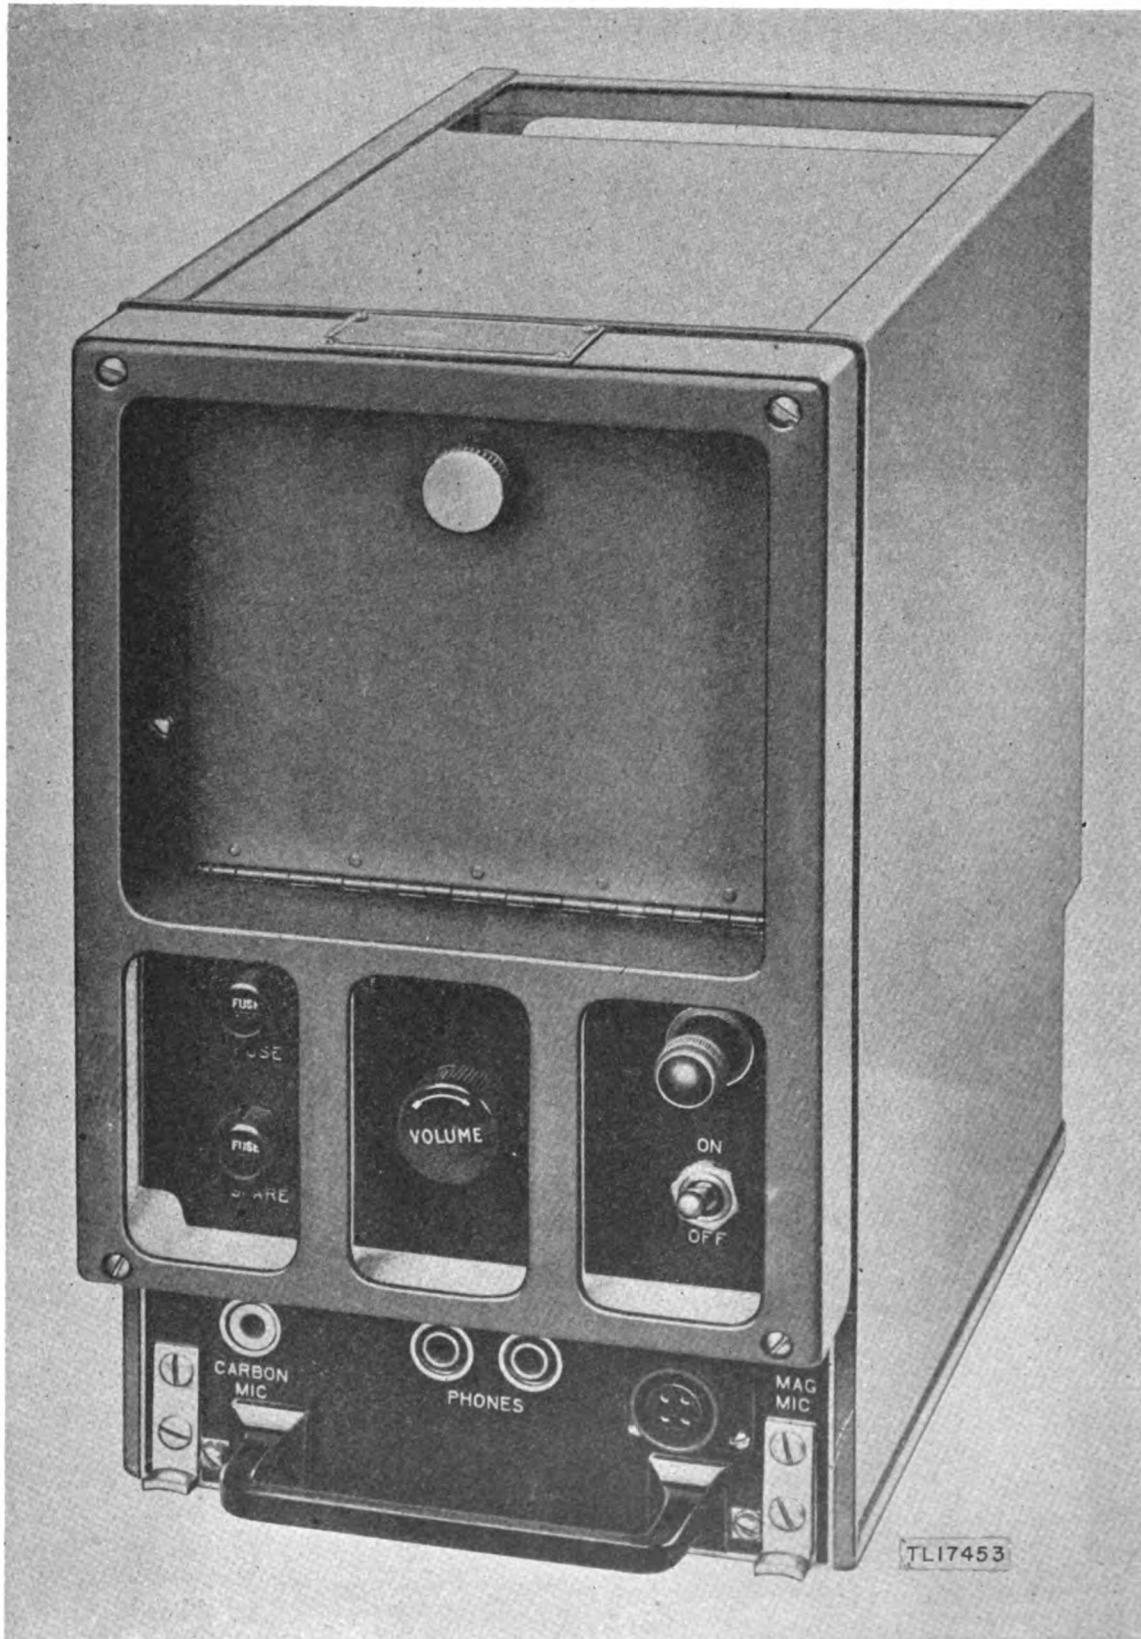

Figure 1. Interphone Amplifier BC-605(*), front view.
a. PURPOSE. Interphone Amplifier BC-605-(*)(figs. 1 and 1a) is a major unit of Radio Set SCR-538-(*). The interphone amplifier is an audio-frequency amplifier which provides interphone communication between occupants of a vehicle having no radio transmitter. Official nomenclature followed by (*) is used to indicate all models of the item of equipment included in this Technical Manual. Thus Interphone Amplifier BC-605-(*), represents Interphone Amplifiers BC-605-A, -C, -D, -AM, -CM, and -DM, which are treated together in this manual.